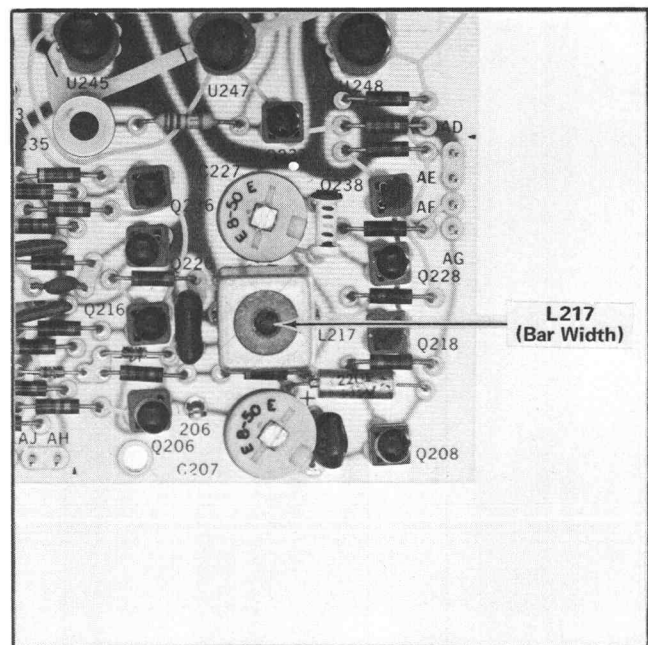

Fig. 5-12. Bar Timing board adjustment location.
e. ADJUST—Bar Width control, L217, (see Fig. 5-12) for a black bar width of 6.6 μ s.